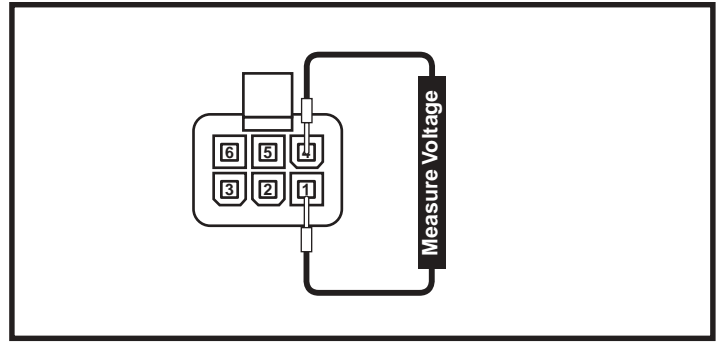

Figure 11. Connector 3b
16. Measure voltage across pin 1 and pin 4 of connector 3b. See **figure 11**.
- *If your multimeter indicates 0VDC, then replace the bus cable (3) and retest the system.*
- *If your multimeter indicates greater than 0VDC, then replace the Q-Logic joystick (1).*